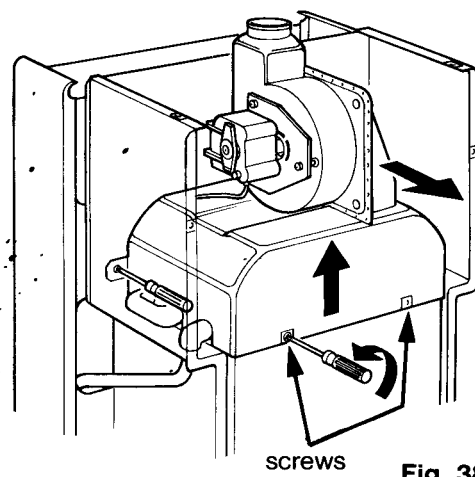

Fig. 38
8.8.7 Release and remove 4 screws and lift off top panel of the air chamber. (fig 38)